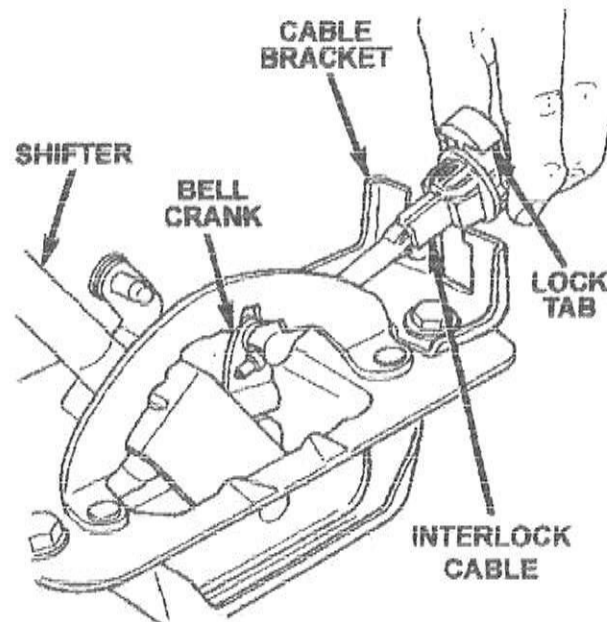

Figure 24
15. Disconnect the ignition interlock cable from the floor shifter bellcrank and shifter bracket (Figure 24).
32. Connect the cable to the floor shifter bracket and shifter (Figure 24).